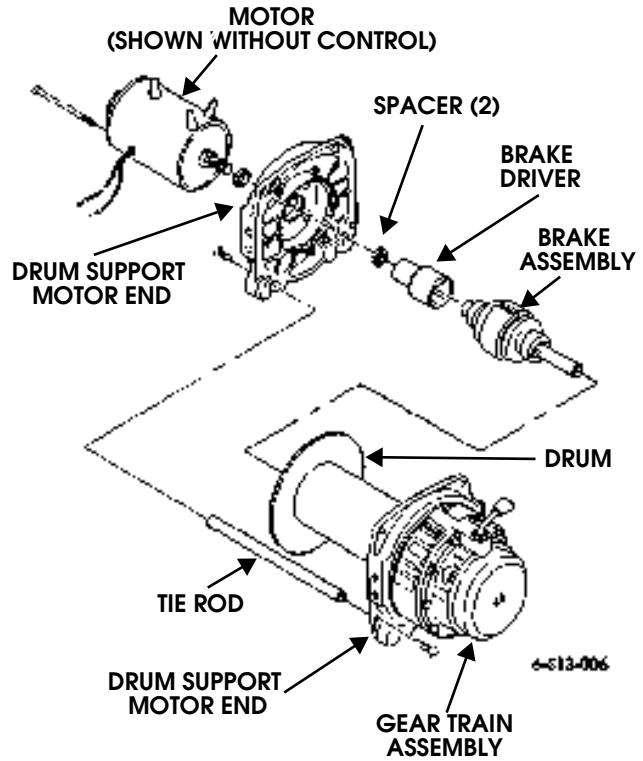

Figure 9-164: Drum Support and Gear Train Assembly
5. Mark motor end drum support, gear train assembly, and gear end drum support for assembly (Figure 9-164).
9. Remove drum assembly from gear train assembly (Figure 9-164).